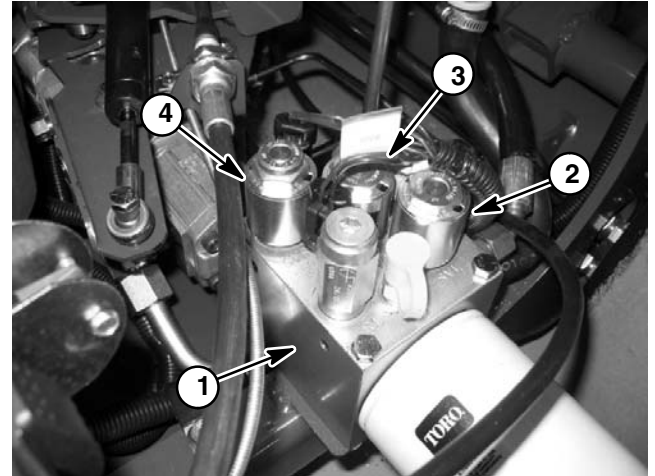
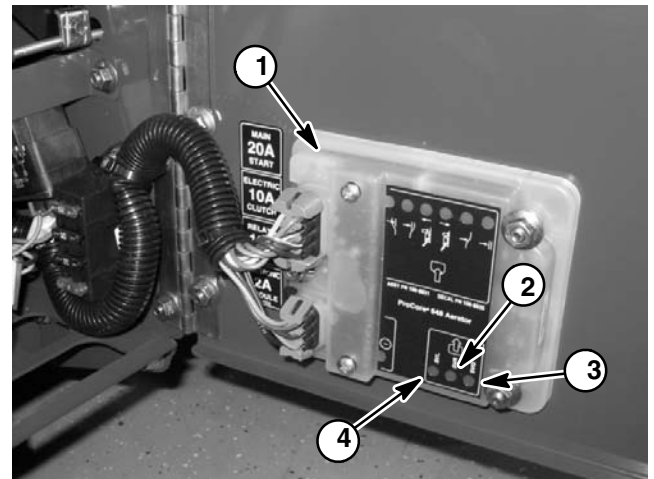

Figure 23
Figure 24
The hydraulic system on the ProCore 648 uses three (3) solenoid valve coils on the hydraulic lift control manifold (Fig. 23). The aerator control module provides current to the solenoid valve coils based on the position of several inputs. A LED on the aerator control module will be illuminated when the solenoid valve coils are energized (Fig. 24).